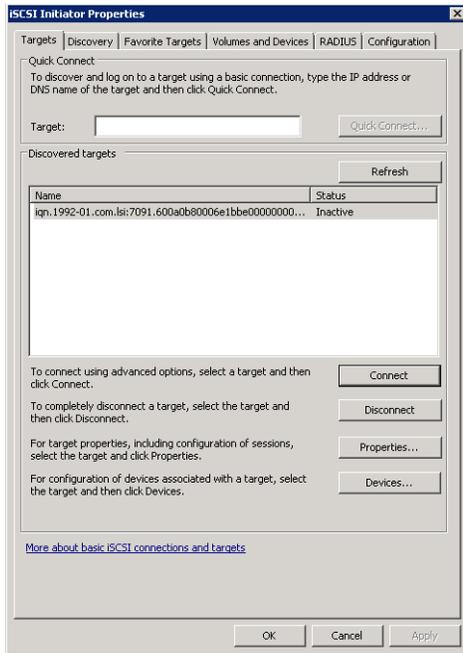

Figure 4-40 Checking discovered targets
5. Check the **Targets** tab as shown in Figure 4-40. A new target has been discovered, after which we can add the iSCSI target controller IP addresses manually.